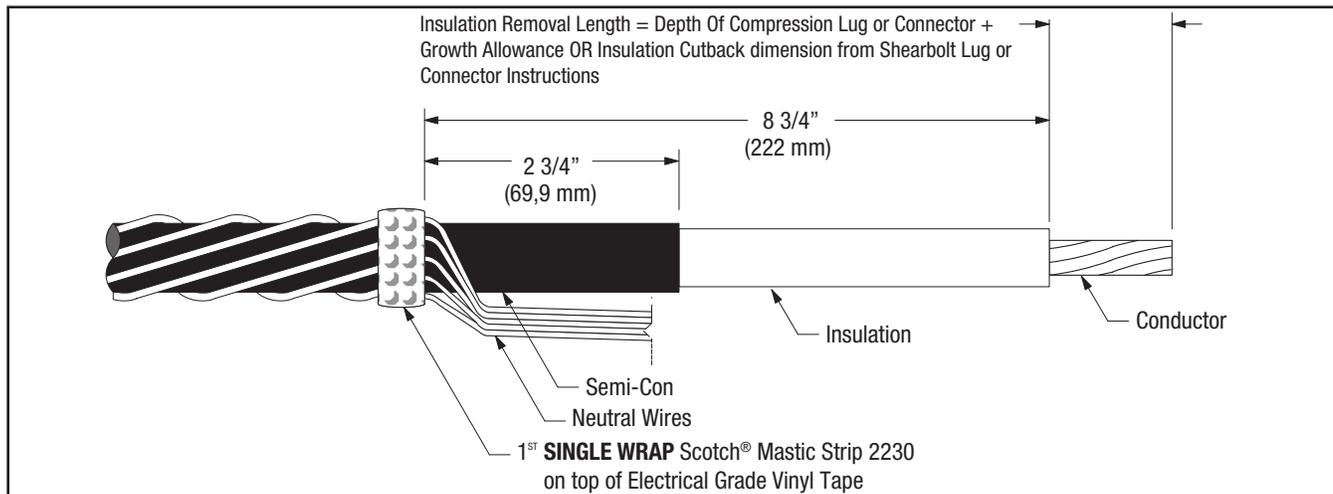

Figure 7
- 6.3 Prepare cable using dimensions shown in Figure 7. **BE SURE TO ALLOW FOR DEPTH OF TERMINAL LUG OR CONNECTOR.** If using 3M Mechanical Shearbolt Lugs QL2 Series: Two Hole, or 3M Shearbolt Connector QCI Series, proceed to Step 6.4. If using a Crimp Type (Compression) lug, measure the depth of the barrel. If using a Crimp Type (Compression) connector, measure to the barrel center stop/midpoint, and see the NOTE below, in order to calculate the Insulation Removal Length. Table 7 can be used to assist in calculating the total Jacket Removal Length when using a compression lug or connector.
- 6.5 Secure neutral wires to cable with several highly stretched layers of electrical grade vinyl tape around the cable and neutral wires 2 3/4" (69,9 mm) from cut edge of cable semi-con (Figure 7).
- 6.6 Select a Scotch® Mastic Strip 2230 from kit and remove white release liners. Using light tension, apply a **SINGLE WRAP** of mastic around the cable and neutral wires 2 3/4" (69,9 mm) from cut edge of cable semi-con, directly on top of vinyl tape (Figure 7). Cut off excess.